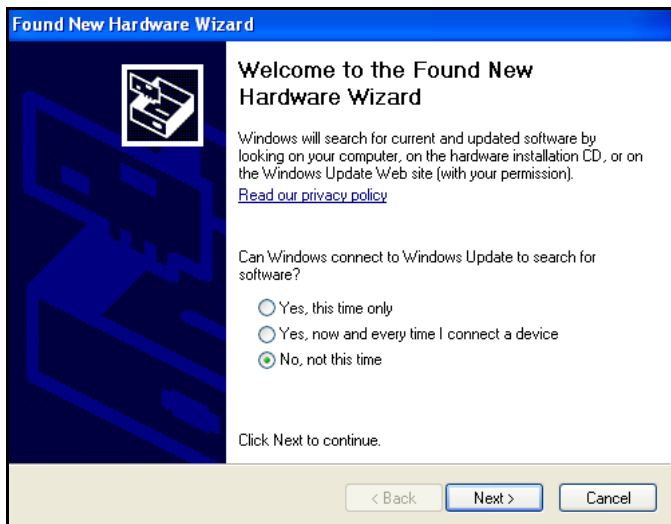

Figure 3-5: New Hardware wizard for Edge Dock
4. For first time use of a docking station, **Welcome to the Found New Hardware Wizard** will appear (see Figure 3-5). Select **No** and press **Next** through the remaining wizard. At the end of the wizard, press **Finish**.